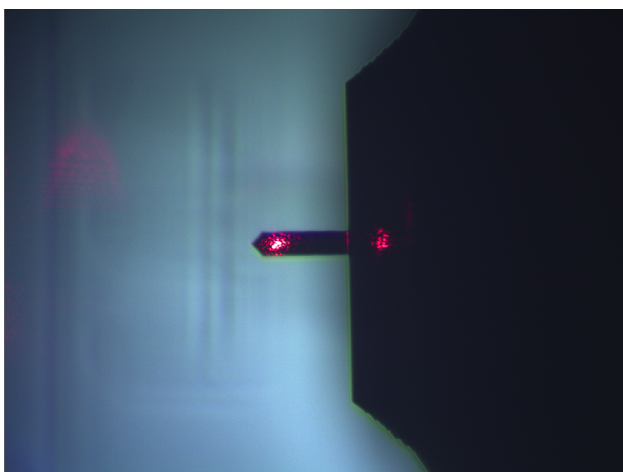
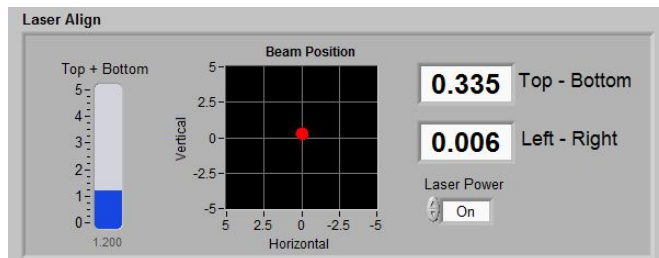

Figure 21: Laser aligned to the back of the cantilever
Figure 22: Laser aligned to the near-center of the detector. For technical reasons you shall aim for a small positive T-B value (0.2-0.4) instead of zero.
In this step, you will perform three sequential alignments: (1) Align the center of the sample holder, the end of the cantilever, and the center of the camera's field-of-view, (2) Align the laser spot to the back of the cantilever (Fig. 21), and (3) Align the reflected laser spot to the center of the positive-sensitive photodetector (Fig. 22). Refer to the video tutorial Alignment: Camera, Laser, and Detector and page 24 of the TT-AFM Users Guide.